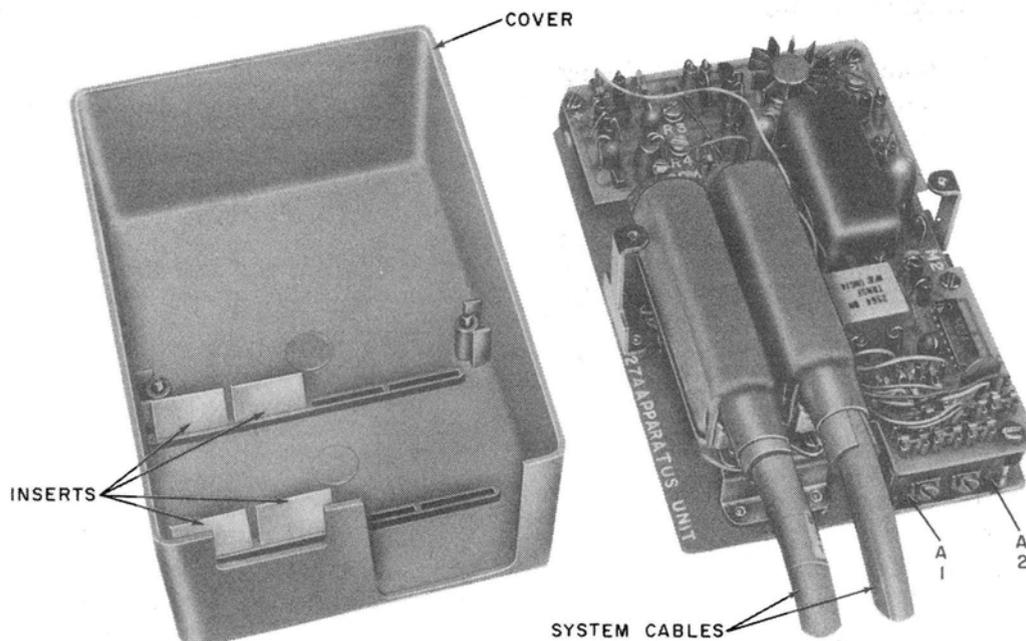
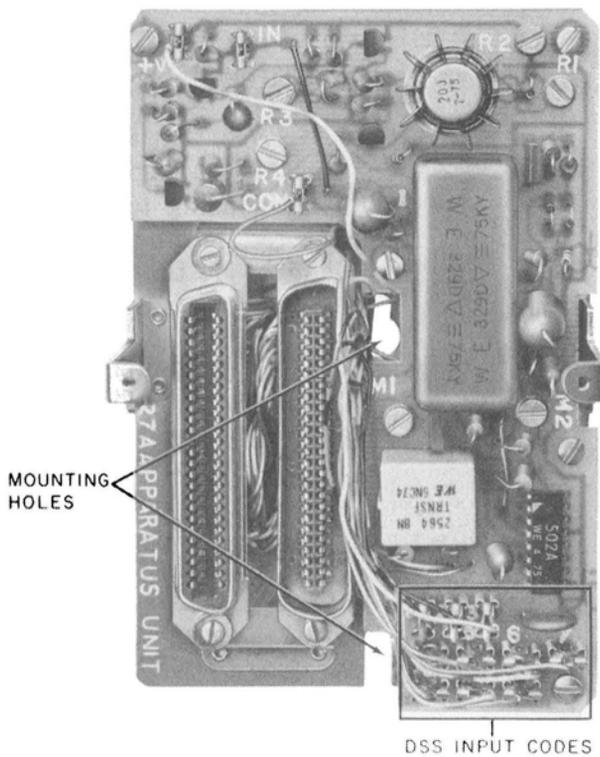

Fig. 20—♦27A Apparatus Unit With L-769856 Cover♦
Fig. 21—♦27A Apparatus Unit
(1) Remove the cover and mount the base pan assembly (Fig. 20 and 21) in the desired location (use appropriate fasteners per BSP 080-720-103).
(2) If background music is to be provided, install the 33A voice coupler per 3.14(b).
(2) If music is provided, connect screw terminals 5 and 6 of the 33A voice coupler to screw terminals M1 and M2 (Fig. 21).
(3) If the customer's paging system requires a contact closure when the paging occurs, connect the coil circuit of a KS-16626 L12 relay set per BSP 463-120-100 to screw terminals R1 and R2 of the 27A. Also connect a shorting strap between screw terminals R3 and R4.
(4) Insert system cable or cables (Fig. 20).
(5) Position inserts (Fig. 20) inside cover to hold cables securely when cover is replaced.